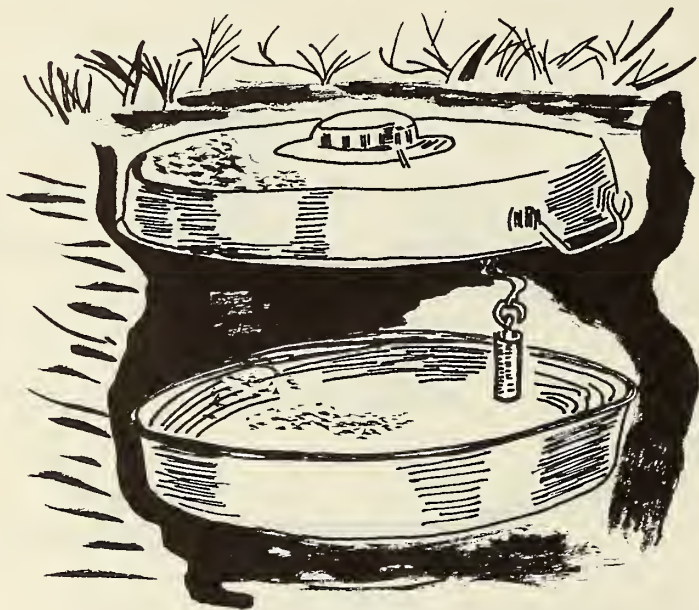

Figure 11
b. One of the most common uses of explosive boobytraps is with mines. When mines are being cleared, each one must be checked for boobytraps. This involves searching for various devices that could possibly detonate a mine and that are in addition to the main fuzes (figures 11, 12).